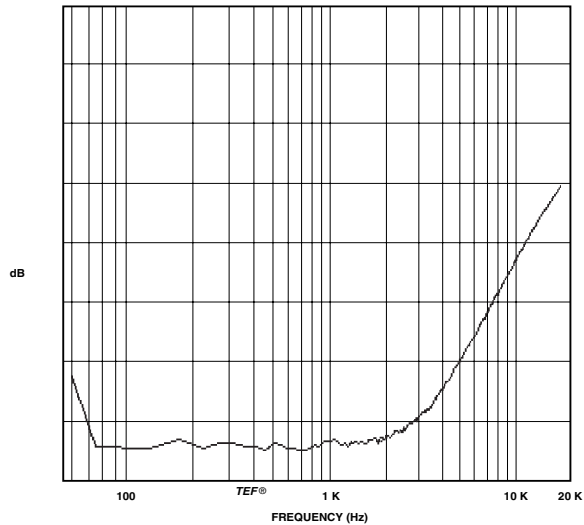

Figure 2.1 Typical Crosstalk
**Crosstalk:** See Figure 2.1.